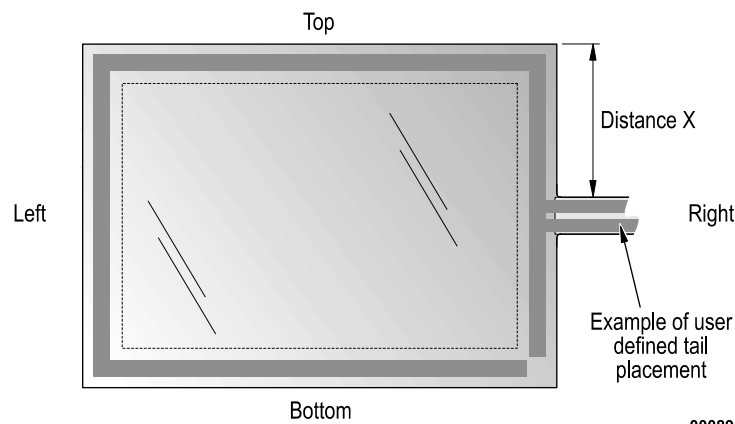

Figure 5: Location of the touch screen tail
- On a shorter edge of the touch screen, if possible (Figure 5).